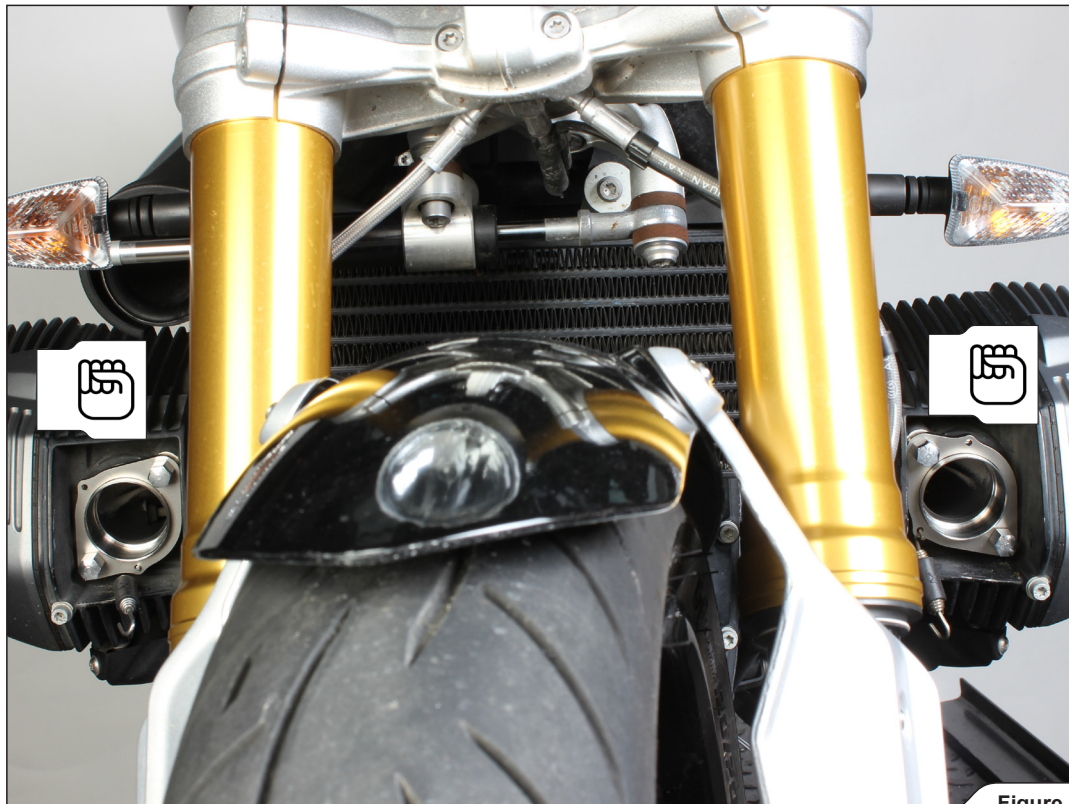

Figure 9
3. Hand tighten the assembled flanges onto the cylinder heads, as shown (Figure 9).